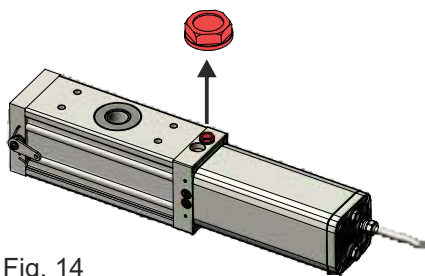
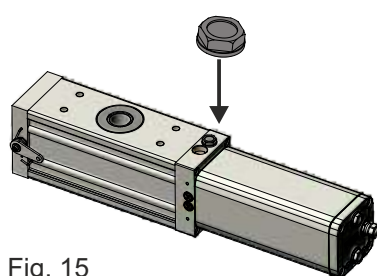

Fig. 14
Fig. 15
- REMOVE **THE RED TRANSPORT CAP UP LOCATED** (FIG. 14) AND REPLACE IT WITH THE BLACK BREATHING CAP SUPPLIED (FIG. 15)
- RETIREZ LE **BOUCHON DE TRANSPORT ROUGE SITUÉ EN HAUT** (FIG. 14) ET REMPLACEZ-LE PAR LE BOUCHON NOIR DE VENTILATION FOURNI (FIG. 15)